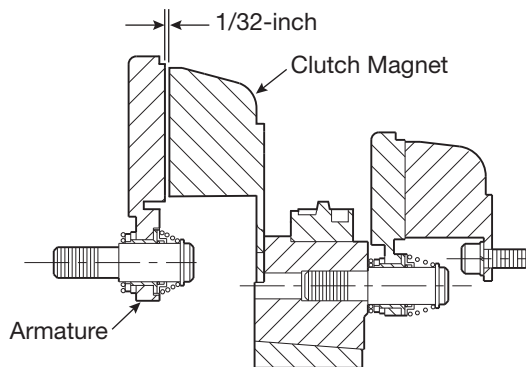

Figure 14
2. Adjust the armature's position to allow a 1/32" gap between the magnet and armature faces. (See Figure 14.)